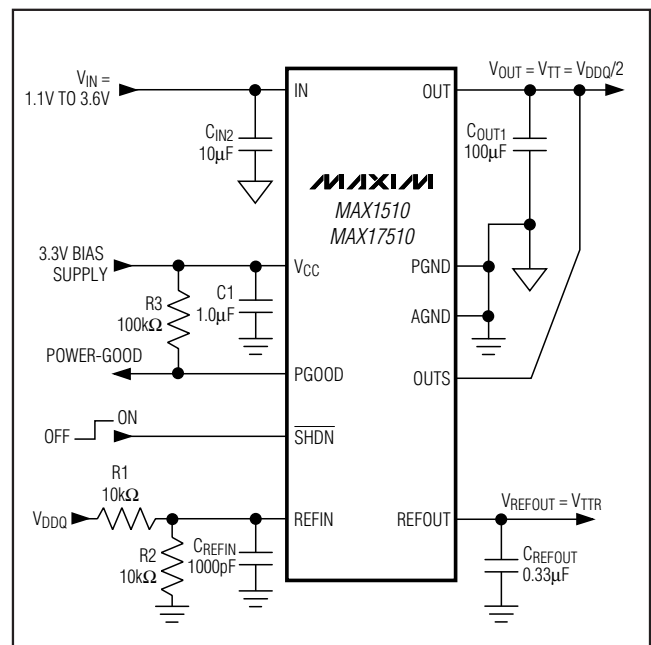

Figure 1. Standard Application Circuit
($V_{IN} = 1.8V$, $V_{CC} = 3.3V$, $V_{REFIN} = V_{OUTS} = 1.25V$, $\overline{SHDN} = V_{CC}$, circuit of Figure 1, $T_J = T_A = -40^{\circ}C$ to $+85^{\circ}C$ for MAX1510ETB, $T_J = T_A = -40^{\circ}C$ to $+125^{\circ}C$ for MAX17510ATB, unless otherwise noted. Typical values are at $T_A = +25^{\circ}C$.) (Note 1)
(Circuit of Figure 1. $T_A = +25^\circ\text{C}$, unless otherwise noted.)
The MAX1510/MAX17510 are low-voltage, low-dropout DDR termination linear regulators with an external bias supply input and a buffered reference output (see Figures 1 and 2). V_{CC} is powered by a 2.7V to 3.6V supply that is commonly available in laptop and desktop computers. The 3.3V bias supply drives the gate of the internal pass transistor, while a lower voltage input at the drain of the transistor (IN) is regulated to provide V_{OUT}. By using separate bias and power inputs, the MAX1510/MAX17510 can drive an n-channel high-side MOSFET and use a lower input voltage to provide better efficiency.
The MAX1510/MAX17510 regulate OUTS to the voltage set at REFIN, making the MAX1510/MAX17510 ideal for memory applications where the termination supply must track the supply voltage. Typically, REFIN is set by an external resistive voltage-divider connected to the memory supply (V_{DDQ}) as shown in Figure 1.